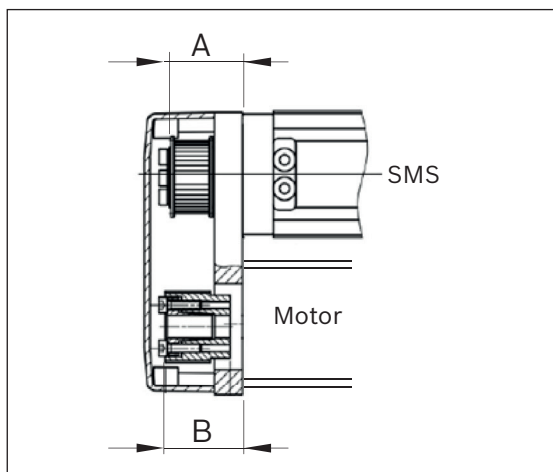

Fig. 13: Dimensions A/B
- ▶ Screw the base plate (1) of the timing belt side drive onto the SMS using screws (6)
- ▶ Assemble first belt pulley (4)
1. Pre-mount the belt pulley (4) (with tensioning unit if necessary) with the toothed belt (5) fitted onto the screw journal (10) of the SMS.
2. Set distance A ➡ Fig. 13 and Table 6 and fasten belt pulley (4) with screws (12) or tensioning unit.
1. Pre-mount the motor with screws (8) and washers (9) as close as possible to the SMS to permit problem-free insertion of the motor-side belt pulley (3) (with tensioning unit if necessary).
2. Push the belt pulley (3) (with tensioning unit if necessary) onto the motor journal (11) and insert the toothed belt into the belt pulley.
3. Set distance B ➡ Fig. 13 and Table 6, and fasten belt pulley (3) with screws (13) (with tensioning unit if necessary).
- Mount the base plate (1) of the timing belt side drive onto the SMS using screws (6)
1. Pre-mount the belt pulley (4), the fitted toothed belt (5) and tensioning unit (4) onto the screw journal (16) of the SMS.
2. Set distance A ➡ Fig. 13 and Table 6 and fasten the tensioning unit.
1. Pre-mount the motor with screws (8) and washers (9) as close as possible to the linear system (SMS) to permit problem-free insertion of the motor-side belt pulley (4/3).
2. Push the belt pulley (3) with tensioning unit onto the motor journal (17) and insert the toothed belt (8) into the belt pulley.
3. Set distance B ➡ Fig. 13 and Table 6 and fasten the tensioning unit.
4. Mounting the tensioning roller (18) for belt tensioning: pre-mount washer (13), bearing (10), bearing attachment (11) together with the screw (12) through the longitudinal hole with square nut (14) on the rear side of the base plate (1).
5. Tension the toothed belt (5) / complete the assembly ➡ 6.8.3 on page 16.